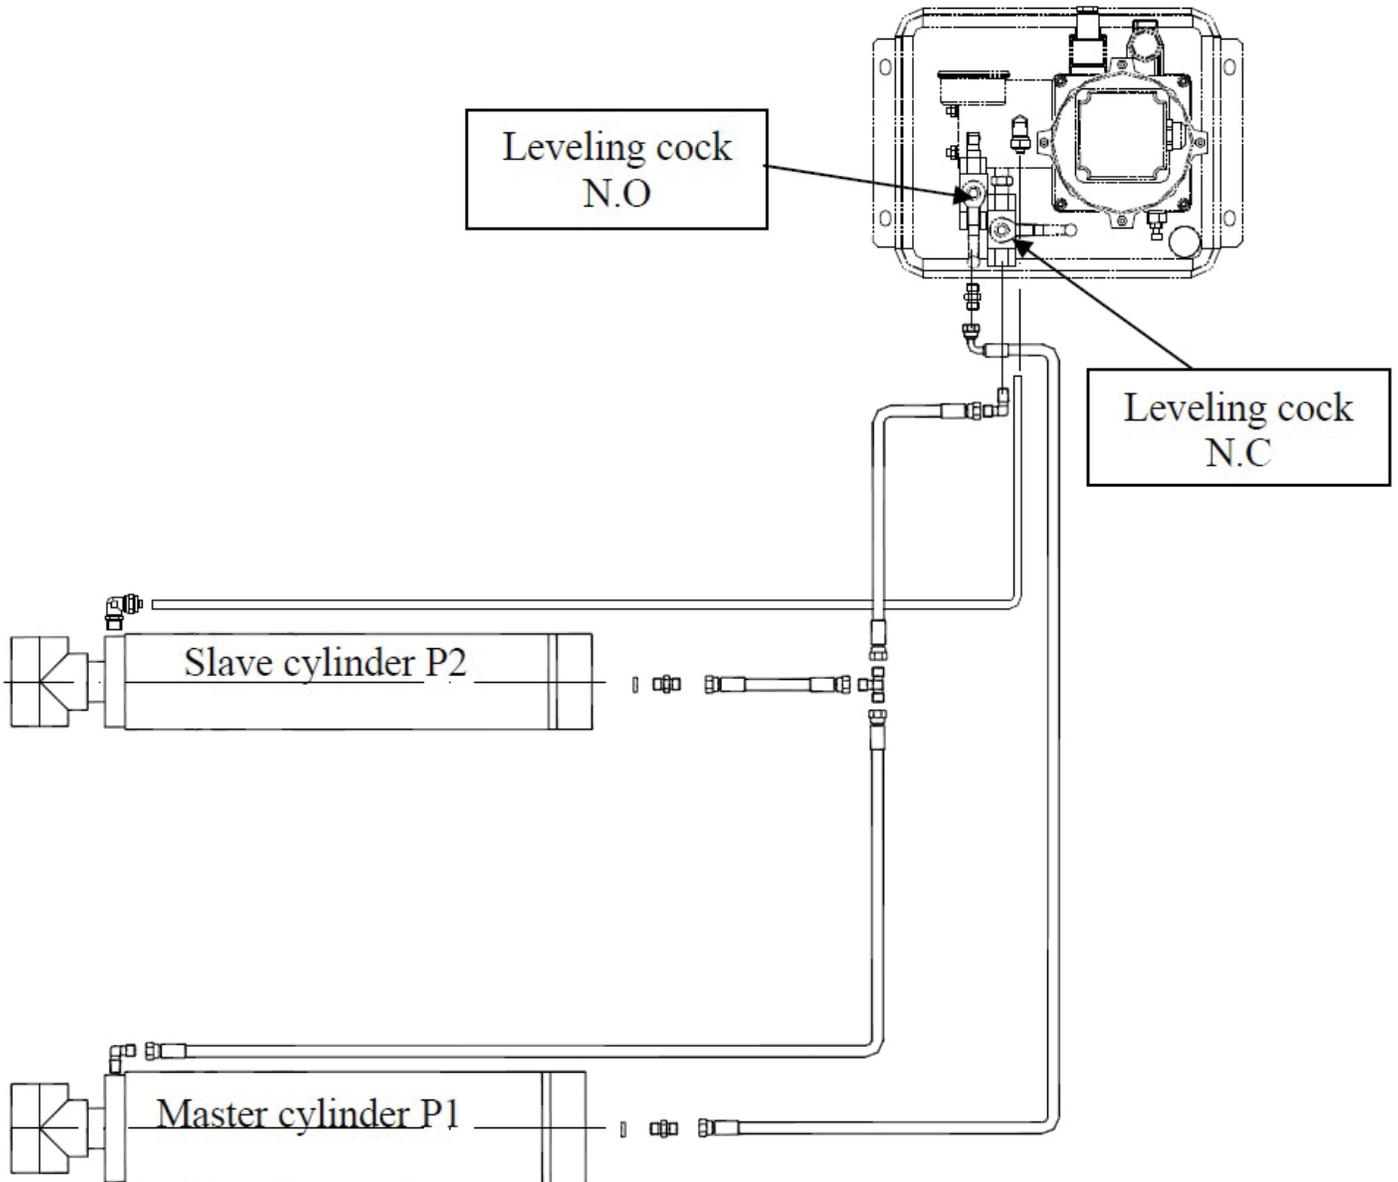

Figure 14 – Hydraulic Connections
- Referring to Figure 14 route hydraulic lines through the hole in the prepared pit.